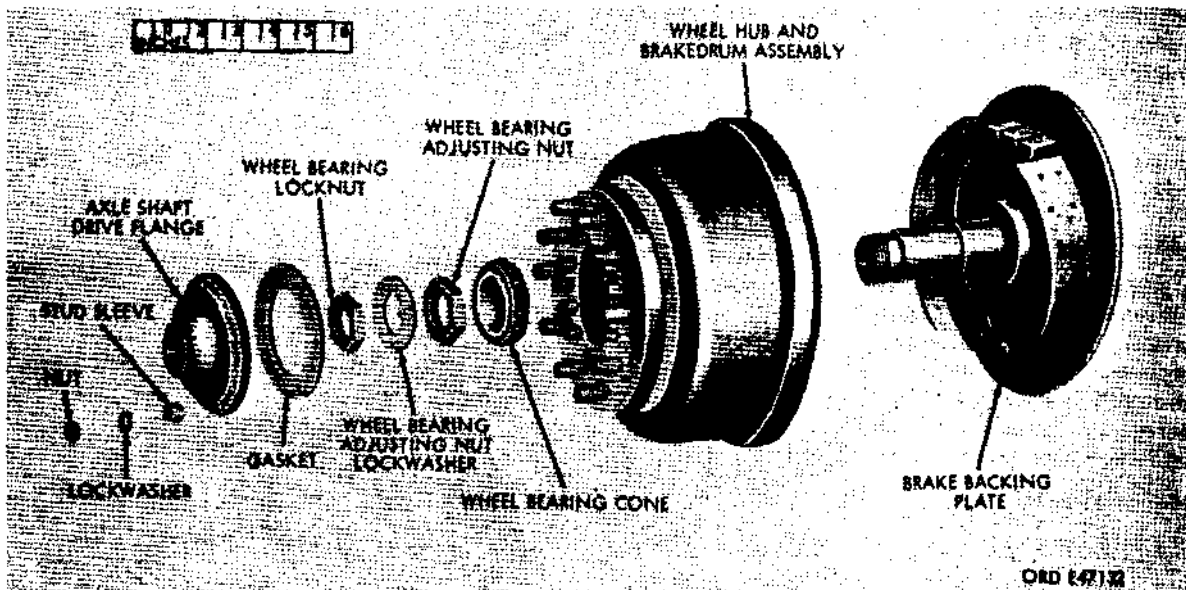

Figure 342. Brakedrum removed - exploded view
- (1) Remove drive flange. Remove the cap screws and lockwashers that attach drive flange to wheel hub and remove axle shaft drive flange (fig. 342).
wheel bearing-adjusting-nut lockwasher (fig. 342) off wheel spindle. Remove wheel bearing-adjusting nut from wheel spindle. Carefully lift the wheel hub and brakedrum assembly off the wheel spindle. Slip wheel inner bearing cone off spindle.